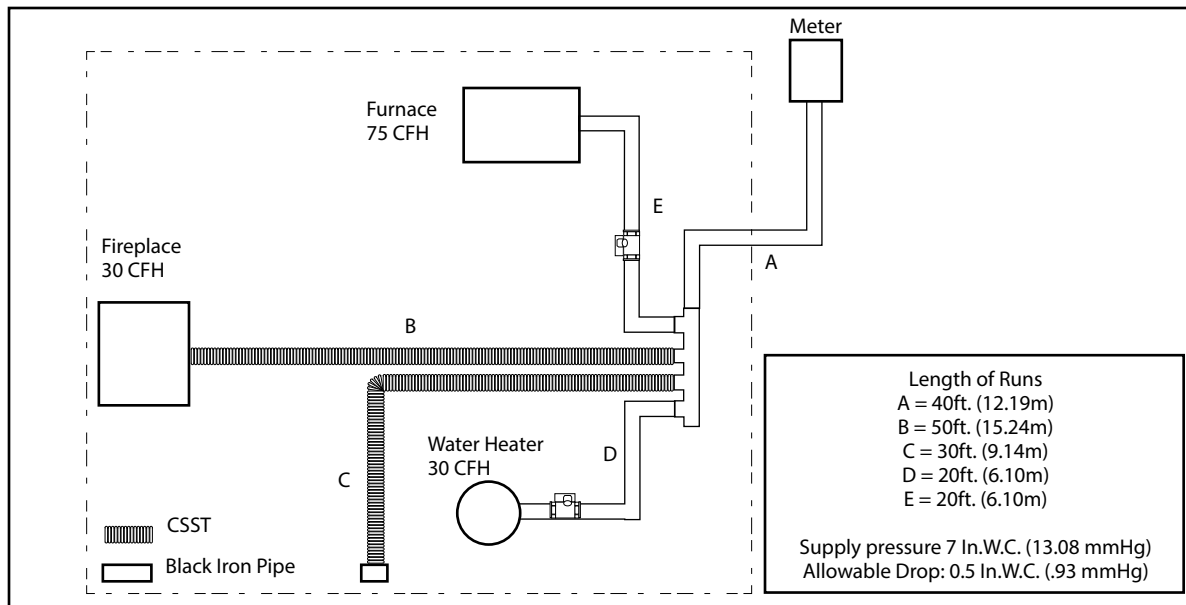

Fig. 3-6 Black Iron Pipe and CSST Systems
1. When adding Diamondback® to an existing black iron pipe system use the longest length method explained earlier in this chapter. In FIG. 3-6 the home has an existing supply line of one-inch black iron pipe. The supply pressure is 7 in.W.C. (13.08mmHg) with an allowable drop of 0.5 in.W.C. (.93mmHg).
2. To size Section A, determine the total load of the home (170 CFH) and the longest run, 90 ft. (27.43m). Table N-8 (Page 54) shows that 1" (25) dia. pipe has a capacity of 205 CFH at 90 ft. (27.43m) The 1" (25) dia. pipe (Section A) will handle the load.
3. To size Section B, determine the load of the fireplace (30 CFH) and the length of the run, 90 ft. (27.43m) Table N-1 (Page 48) shows the suitable size Diamondback® is  $\frac{1}{2}$ " (13).
4. To size Section C, determine the load of the quick connect (25 CFH) and the length of the run., 70 ft. (21.34m) Table N-1 shows the suitable size Diamondback® is  $\frac{1}{2}$ " (13).
**Note:** If the supply pressure was raised by the gas utility to 10 in.W.C. (18.68 mmHg) with allowable pressure drop of 3 in.W.C. (5.60mmHg), table N-3 (Page 49) shows Sections B & C could both be run with  $\frac{3}{8}$ " (10) Diamondback CSST.